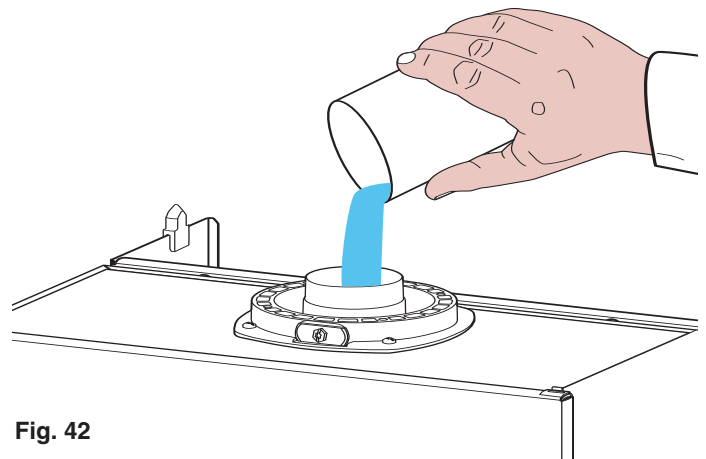

Fig. 42
2. **Fill the condensate trap with water, by pouring 1/2 a litre of water into the exhaust flue connector (see Fig. 42). N.B. In the event of a prolonged period of system shutdown, the condensate trap should be filled before any renewed use. A shortage of water in the trap could possibly lead to a leakage of fumes into the air, until it refills itself.**